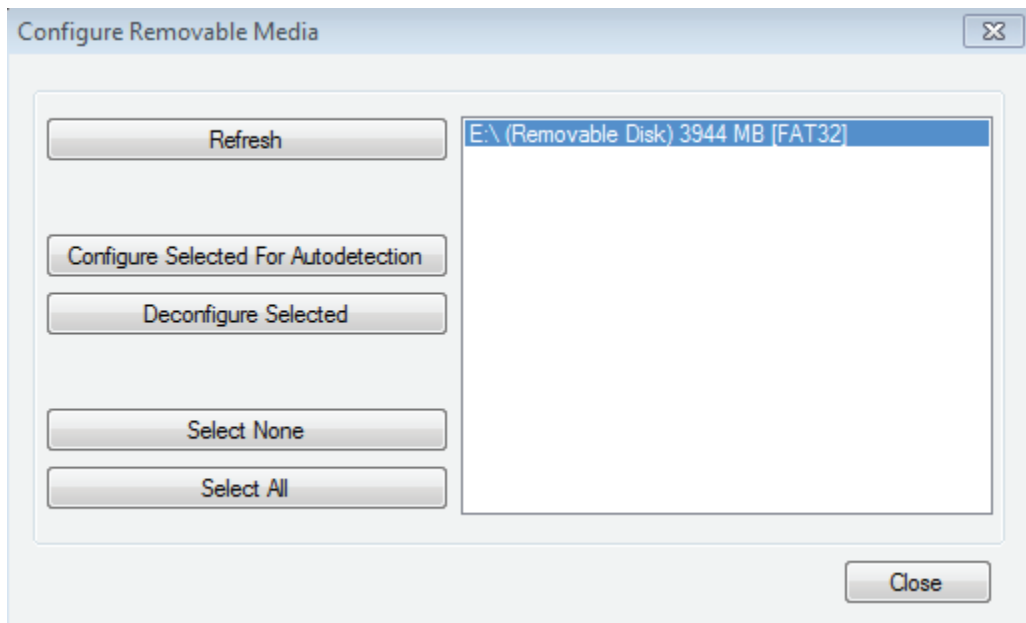

Figure 32 Configure removable media
- 2 Figure 32 will show all available removable devices on the system and the following table provides the definition of each option under the 'Configure Removable Media' window.